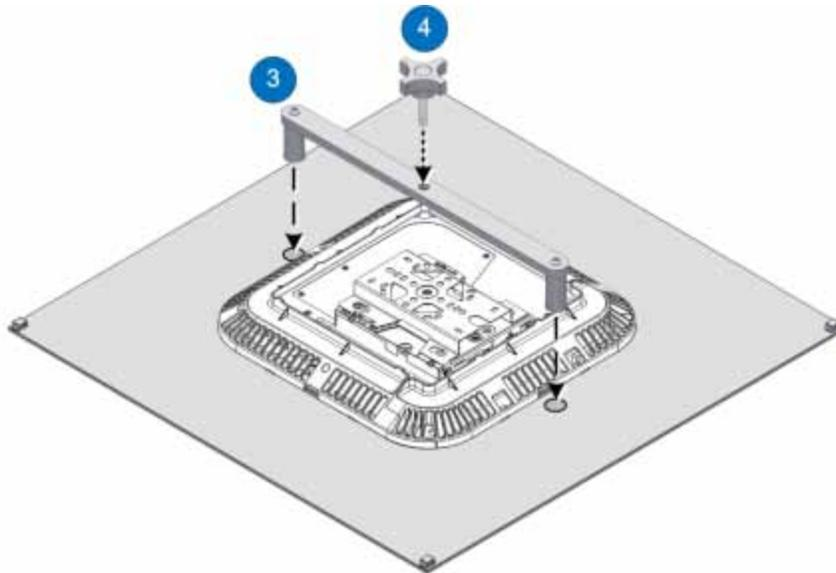

Figure 5-61. Assembling Flat Bar and Knob onto Plate
8. Assemble Flat Bar (Item 3) and Knob (Item 4) as shown in Figure 5-61.